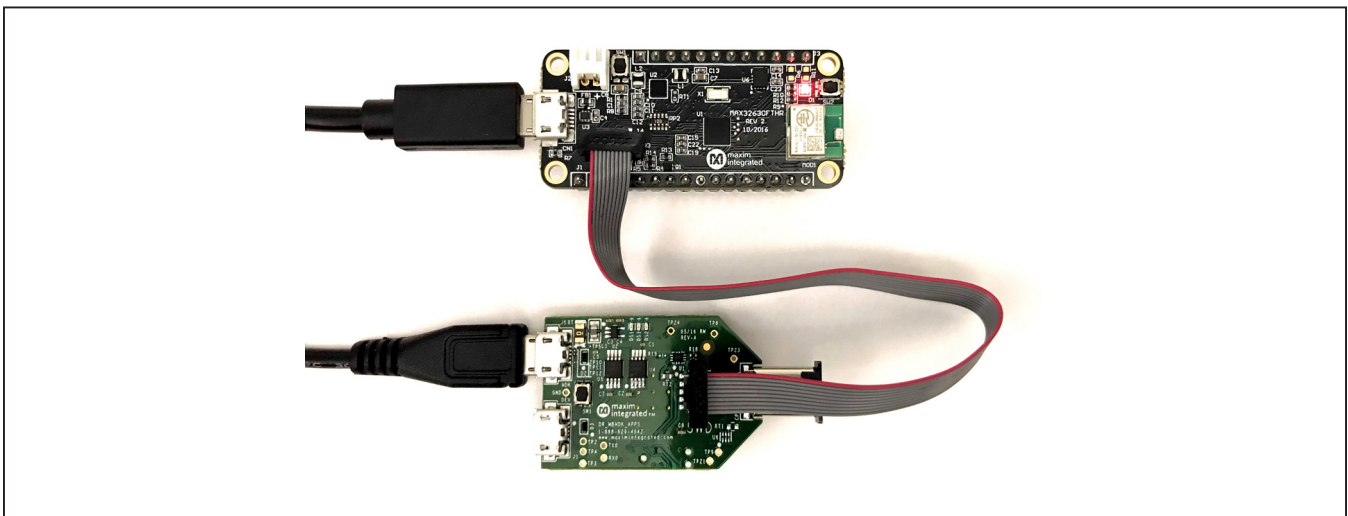

Figure 7. Programming Adapter Connections
- Connect the programming adapter to the MAX32630FTHR with the 10-pin JTAG connector as shown in Figure 7.